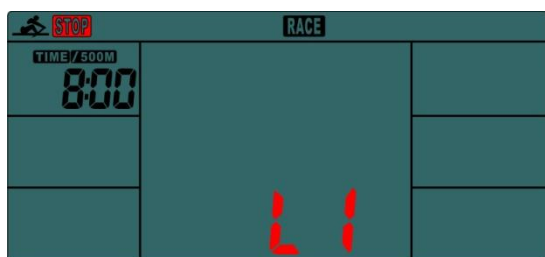
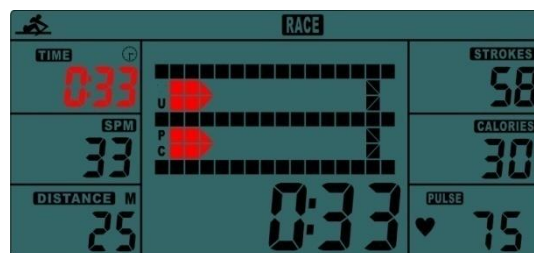
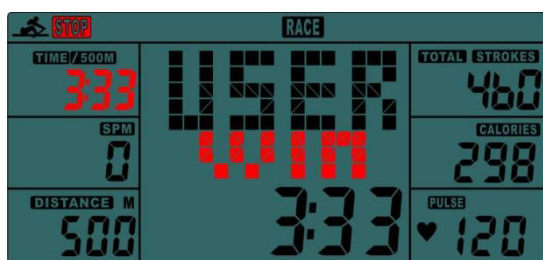

Fig.5
Fig.6
Fig.7
II. RACE (Fig.5):
A. Press "START" button to start and "STOP" will disappear. "USER" and "PC" will display in the matrix (Fig.6). The computer will stop when either user or computer has reached the race distance that was set. Then the matrix displays "PC WIN" or "USER WIN" (Fig.7).
ONLY ARM ROWING: This workout should tone your arm, shoulder, back and abdominal muscles. Sit on the machine as shown in Fig. 4. Straighten your legs, lean forward and grasp the handles. Control your moving and gradually lean back to just past the up-right position (Fig. 5) and continue to pull the handles towards your chest (Fig. 6). Return to the starting position and repeat.
ONLY LEG ROWING: This workout helps toning your leg and back muscles. Keep your back straight and arms out-stretched, bend your legs until you will grasp the rowing handles in the starting position (Fig. 7). Use your legs to push your body back (Fig. 8) while keeping your arms and back straight as shown in Fig. 9.